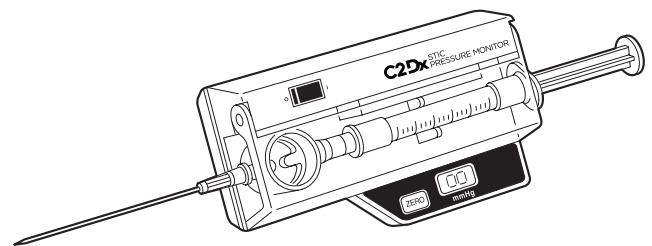

Figure 3
9. Approximate the intended angle of insertion of the needle into the skin. To ensure accuracy, the display must read -8 to +9 mmHg. Press the ZERO button. The display will read “00” after approximately 2 seconds. See Figure 3.